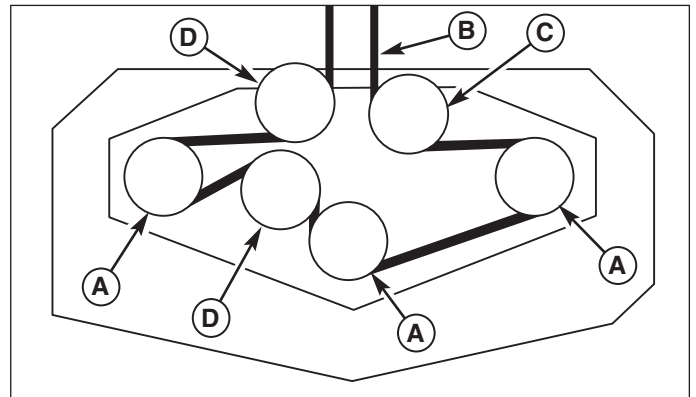

Figure 39. Mower PTO Belt Routing
4. Slide the drive belt over the edge of the stationary idler pulley (B). Carefully release the tension on the breaker bar.
5. Remove the old belt and replace with a new one. Make sure the V-side of the belt runs in the pulley grooves (Figure 39).